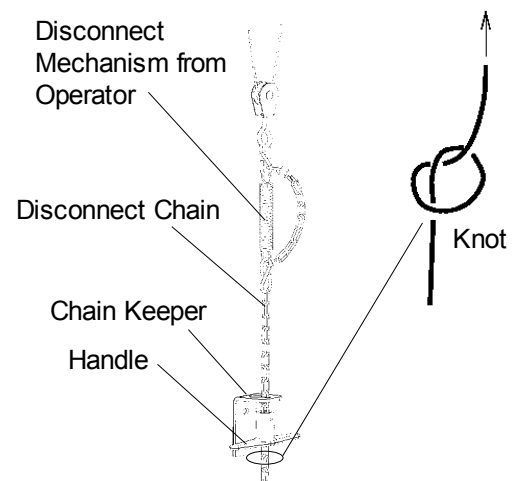

Figure 11 - Disconnect Chain
1. Link the disconnect chain to the hook located at the extremity of the operator's disconnect mechanism, see Figure 11.